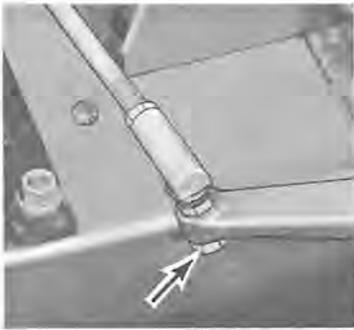

Figure 9-34
- c. Remove nut and washer from steering arm (see Figure 9-34). Loosen locking nut.